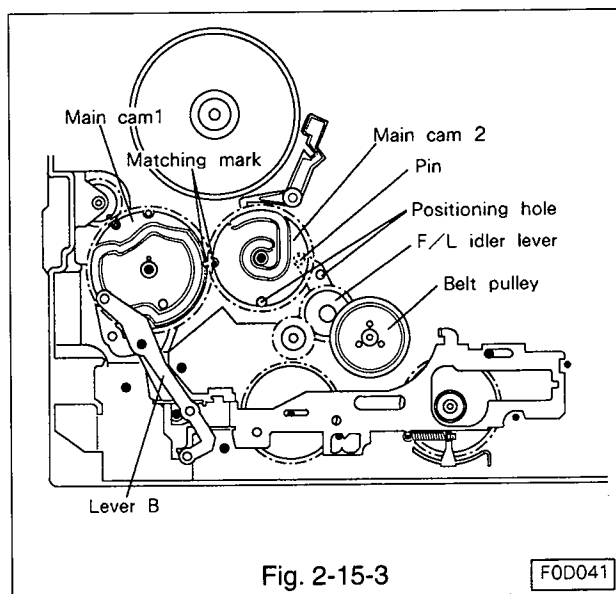

Fig. 2-15-3
- Assemble lever B to the shaft so that the pin of the lever shown in Fig. 2-15-3 enters the groove of the main cam 1. Secure the lever with a grip ring.
- Line the positioning hole of the F/L idler lever with that of the main plate. (Refer to Fig. 2-15-3.)
- Line the matching mark of main cam 2 with that of main cam 1, and also the positioning hole of main cam 2, and assemble the main cam 2 to the shaft. (Refer to Fig. 2-15-3.)